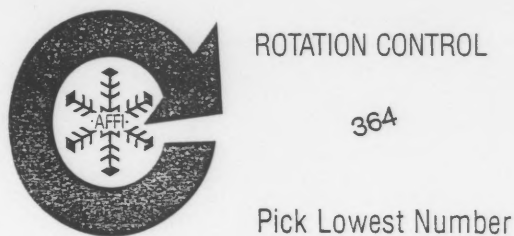

Figure 1. Shipping case inventory control.
When the unit load loses its identity there is a need for a simple, easily recognizable inventory control system to enable individual shipping cases to be selected on a FIFO basis. An industry-wide program designed to meet this need has been introduced by the American Frozen Food Institute and published by the Frozen Food Round Table (3). The program calls for placing a symbol (Figure 1) on one or more sides of every shipping case accompanied by either an open shelf-life date (with the instruction "pick earliest date") or a sequential number together with the instruction "Pick lowest number".